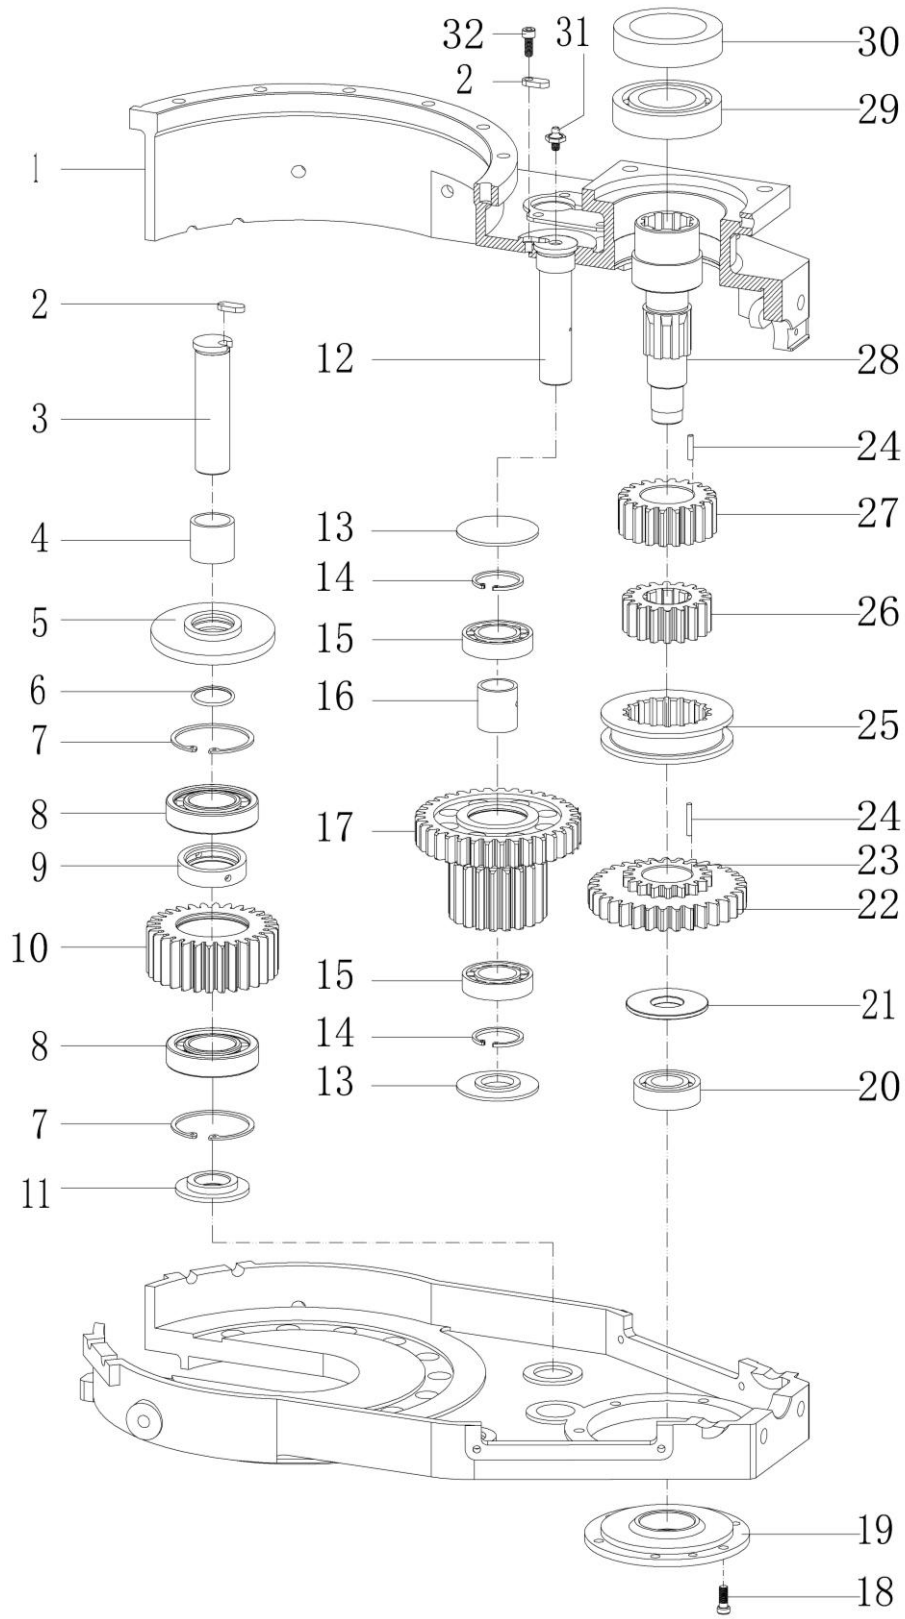

Fig 11
9.7 Transmission and parts list(Fig.11,Table 7)